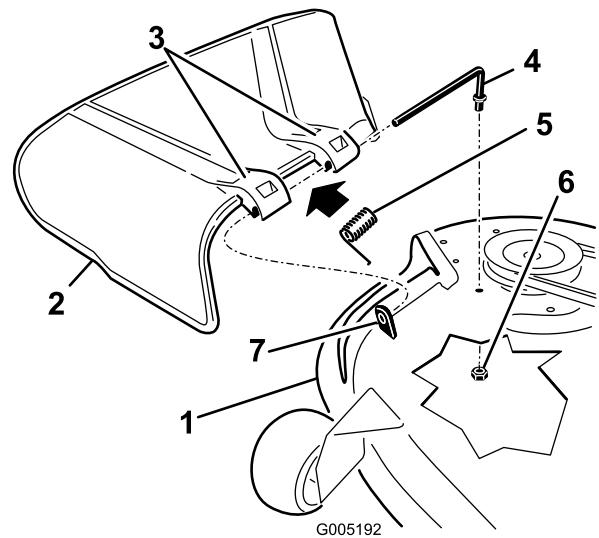

Figure 63
1. Remove the nut (3/8 inch) from the rod under the mower (Figure 63).
2. Slide the rod out of the short standoff, the spring, and the grass deflector (Figure 63).
4. Replace the grass deflector (Figure 63).
7. Slide rod through the second grass-deflector bracket (Figure 63).
9. Secure the rear end of the rod into the mower with a nut (3/8 inch) as shown in Figure 63.